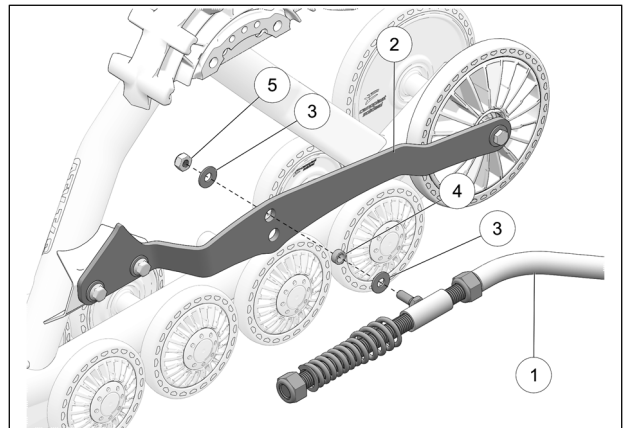

Fig. 8
7. Attach the rear stabilizing rod (**1**) to the undercarriage bracket (**2**) using washers (**3**), a bushing (**4**) and a nut (**5**). Choose the hole that does not create interference between the nylon lock nut (**5**) and the plastic drive sprocket. See Fig. 8